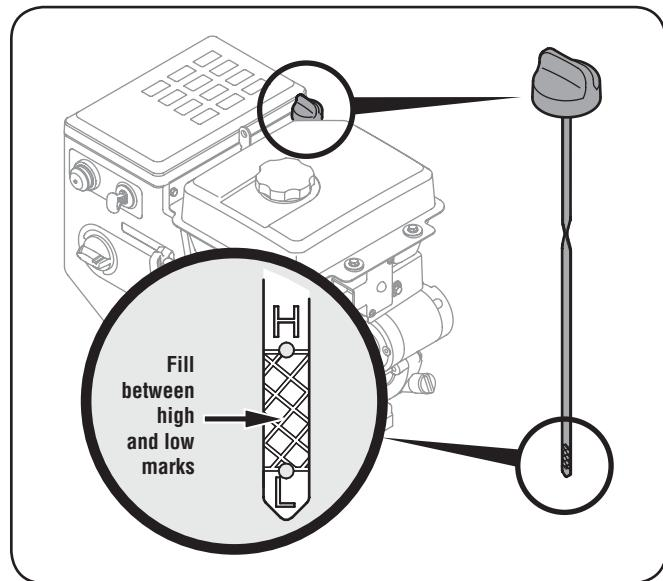

Figure 3-2
- Keep oil level between "H" and "L" marks on dipstick. See Fig. 3-2.
1. Remove the oil filler cap/dipstick and wipe the dipstick clean. See Fig. 3-2.
3. Remove the oil filler cap/dipstick. If the level is low, slowly add oil until oil level registers between high (H) and low (L), Fig. 3-2.
4. Loosen and remove the oil fill cap dipstick from the oil filler tube. Note the oil level, if oil reading on the dipstick is below the "L" mark, slowly add oil to reach the "FULL" level. See Fig. 3-2 or 3-3, whichever is applicable.